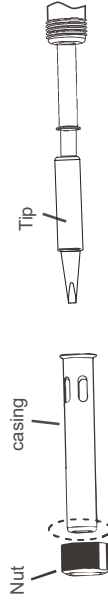

Figure 1-1
2. To change the soldering iron tip, (as following Figure 1-1) unscrew the stainless steel sleeve on the tip, replace the current tip with a new one, and screw tighten the sleeve back